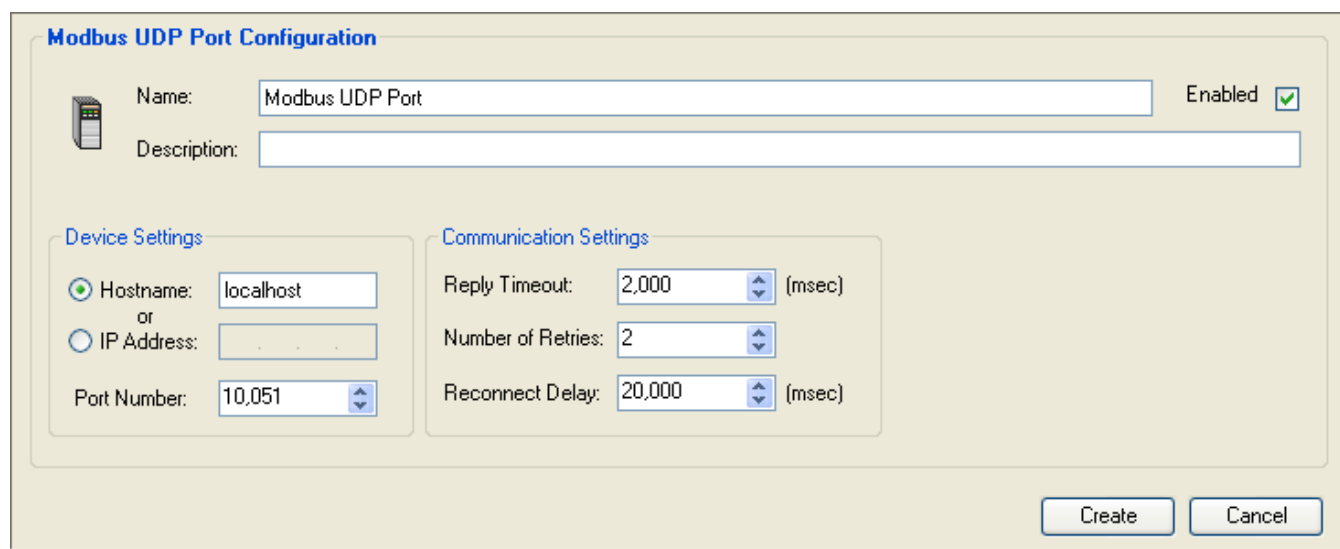

Figure 16 - Modbus UDP Port Configuration Page
Figure 16 displays the **Modbus UDP Port Configuration** page.
- The **Modbus UDP Port Configuration** page (Figure 16) is displayed in the settings pane on the right side of the screen.